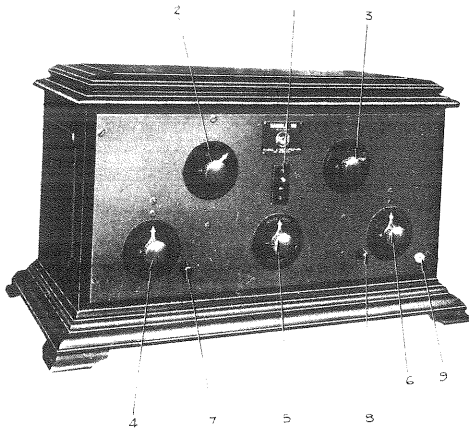

Fig. 1
2. Be sure that white button (No. 1, Figure 1) of push switch is out.
5. Be sure filament control (No. 5, Figure 1) is turned as far as it will go to the left, or opposite to clockwise direction.
8. Place pointer of control (No. 2, Figure 1) in the position on the "Antenna," or upper part of the dial, including the wave length (as marked on the dial) it is desired to receive.
10. With this receiver, when control (No. 2, Figure 1) is on the "antenna" side, seven settings of the "secondary tuning" control for seven different wave lengths are given in the table below:
To "pick up" a station, the "second tuning" control should first be set to the approximate wave length of the station it is desired to hear, using the above table for this first setting. Then the "antenna tuning" control (No. 4, Figure 1) should be moved slowly over the scale until signals are heard.
The best stabilizer position will be found at a point just below what is termed the "oscillation point." When the oscillation point is exceeded and secondary control (No. 6, Fig. 1) is moved thru the broadcasting range, whistling sounds known as "carrier beats" will be heard. While receiving a "carrier beat" the procedure is to lower the stabilizer a trifle, at the same time manipulating the secondary vernier (No. 8, Fig. 1) until the carrier beat note disappears indicating that oscillation has ceased and the station is heard without distortion. To strengthen the signal, bring the antenna circuit into tune by varying antenna controls 4 and 7 (Fig. 1). When tuned to maximum intensity by this means gradually increase stabilizer until still further volume is attained. Bear in mind that the stabilizer is an adjustment of sensitivity and not of tuning. Care should be taken that set is not left in oscillating condition.
1. Place control (No. 2, Figure 1) in the position on the "loop" side including the wave length it is desired to receive.
2. Other precautions and instructions for tuning remain the same as when used with outdoor or indoor antenna, except that the antenna tuning controls (No. 4 and No. 7, Figure 1) are automatically cut out of use, or removed from the circuit.
With average use these batteries should last about three months. They require replacement when the filament control (No. 5, Fig. 1) must be kept at maximum for best reception, and when the tubes light but dimly with the pointer in that position. The old cells can be removed by disconnecting all wires from battery binding posts